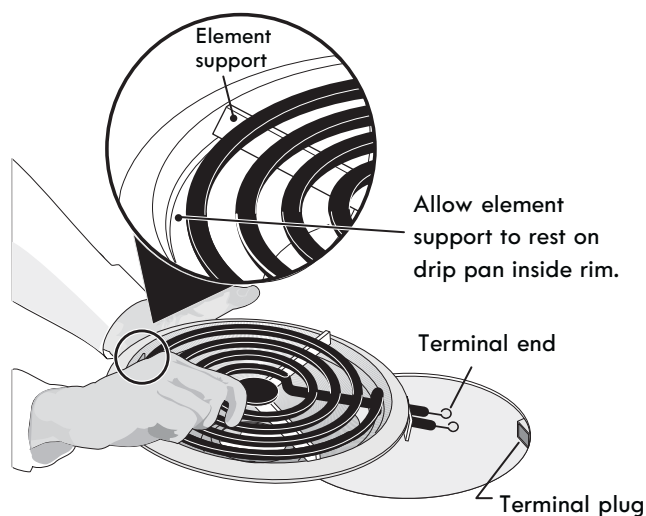

Figure 17: Removing surface elements and drip bowls
2. While holding the drip bowl and surface element, gently pull the terminal end out from terminal plug (See Figure 17).
1. Slide the terminal end on the surface element through the opening in the drip bowl (See Figure 17).
3. After the surface element is positioned in the drip bowl, line up the terminal end with the terminal plug as shown (See Figure 17).